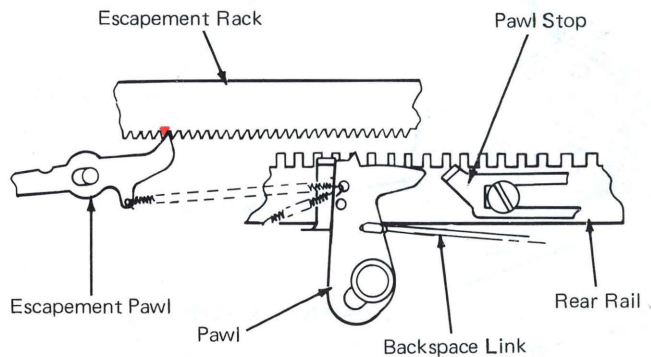

Figure 3 – Backspace Pawl At Rest (Bottom View)
1. Backspace pawl at rest, carriage held by escapement pawl (Figure 3).